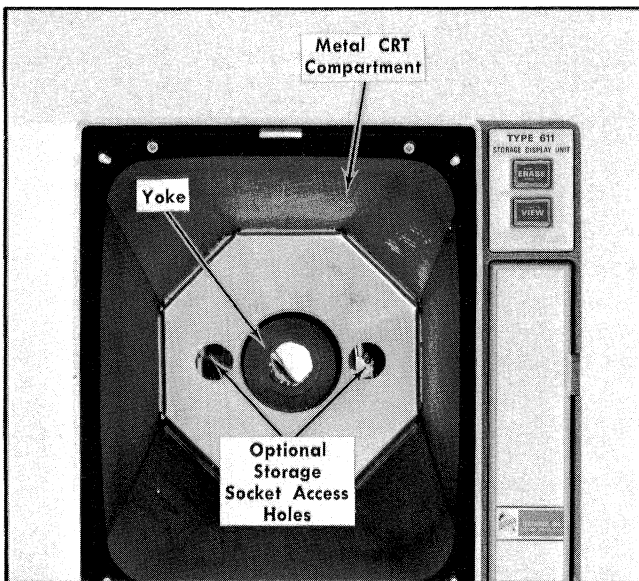

Fig. 4-10. Front view of Type 611 with CRT removed.
3. Insert the storage plug through the desired access hole in the CRT shield. (As shown in Fig. 4-10, two holes are provided in the CRT front shield to allow the CRT to be installed either 'upright' or 'inverted' and still make connections to the storage plug. The CRT operates properly when